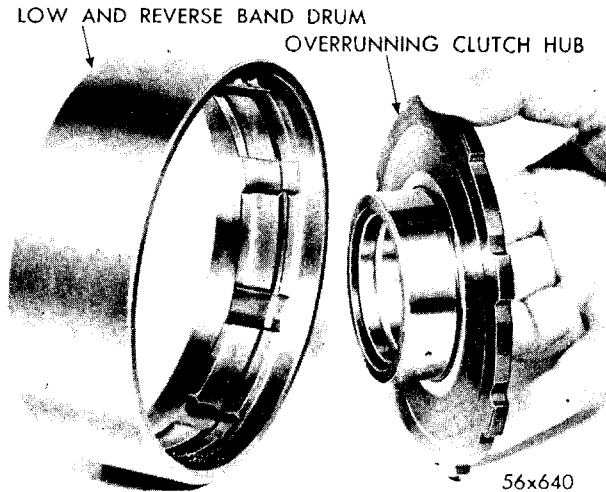
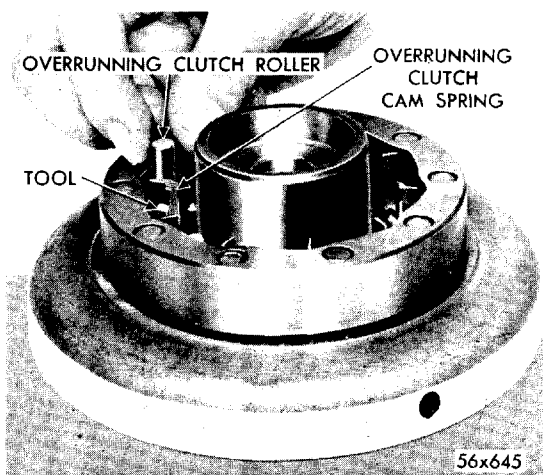

Fig. 69—Removal and Installation of Overrunning Clutch Hub in Low and Reverse Band Drum
Fig. 72—Installation of Overrunning Clutch Rollers and Springs in Intermediate Support and Cam Assembly
reverse band drum, Figure 69.
(1) Install overrunning clutch hub assembly (hub first) into snap ring side of the low and reverse band drum, Figure 69.
(2) Place low and reverse planet pinion carrier assembly (E) in position in low and reverse band drum (G).
(3) With drum supported, select snap ring to give minimum clearance. Snap rings are available in three thickness: .060 - .062, .064 - .066, and .068 - .070 inch.
(4) Place Tool C-3527, in position in intermediate support and cam assembly, and install cam spring and rollers, as shown in Figure 72. **Make definitely sure that cam springs and rollers are properly seated against cam; otherwise, damage to springs will result when overrunning clutch hub is installed.**